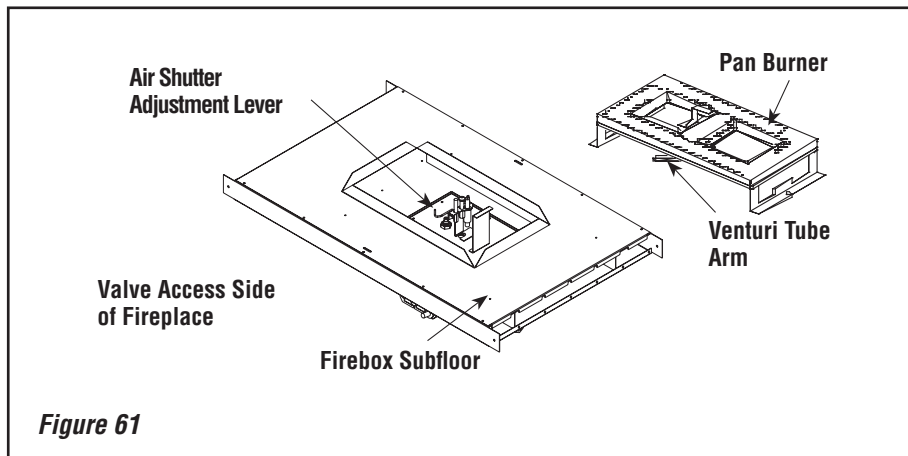

Figure 61
- b. Locate the two (2) latches at the top of the control compartment. To disengage the two latches from the bottom vee-flange of the glass enclosure panel, reach for the handles located towards the back of the latches and pull the handles down toward the front of the appliance.
Step 3. Referring to *Figure 61*, remove the burner.
Ensure that the arm of the venturi of the burner is hooked onto the air shutter adjustment lever (refer to **Figure 61 on Page 41**). The primary air opening can be adjusted by rotating the adjustment lever from beneath the firebox floor. Refer to **Figure 59 on Page 36** for the recommended minimum primary air shutter opening setting.